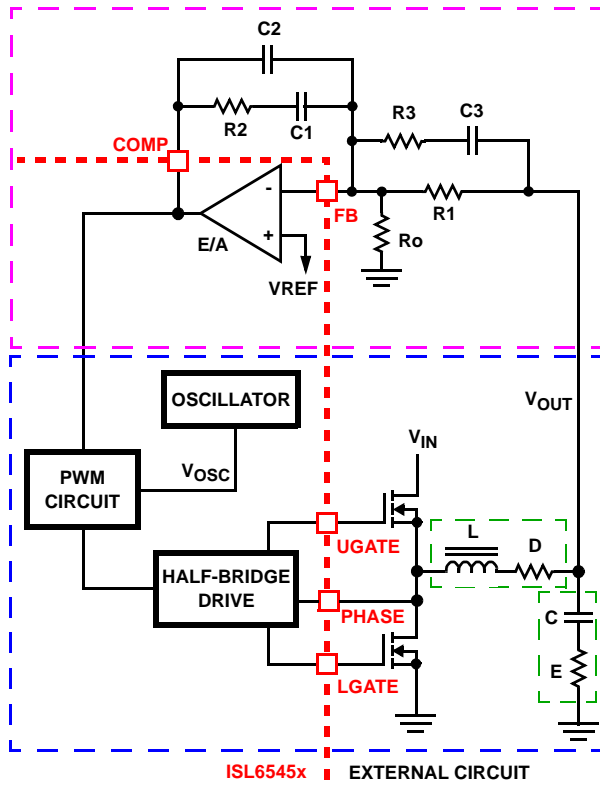

FIGURE 9. VOLTAGE-MODE BUCK CONVERTER COMPENSATION DESIGN
This section highlights the design consideration for a voltage-mode controller requiring external compensation. To address a broad range of applications, a type-3 feedback network is recommended, as shown in the top part of Figure 9.
Figure 9 also highlights the voltage-mode control loop for a synchronous-rectified buck converter, applicable to the ISL6545x circuit. The output voltage (V_{OUT}) is regulated to the reference voltage, V_{REF} . The error amplifier output (COMP pin voltage) is compared with the oscillator (OSC) modified sawtooth wave to provide a pulse-width modulated wave with an amplitude of V_{IN} at the PHASE node. The PWM wave is smoothed by the output filter (L and C). The output filter capacitor bank's equivalent series resistance is represented by the series resistor E.
The compensation network consists of the error amplifier (internal to the ISL6545x) and the external R1-R3, C1-C3 components. The goal of the compensation network is to provide a closed loop transfer function with high 0dB crossing frequency (F_0 ; typically 0.1 to 0.3 of F_{SW}) and adequate phase margin (better than 45°). Phase margin is the difference between the closed loop phase at F_{0dB} and 180°. The equations that follow relate the compensation network's poles, zeros and gain to the components (R1, R2, R3, C1, C2, and C3) in Figure 9. Use the following guidelines for locating the poles and zeros of the compensation network:
1. Select a value for R1 (1kΩ to 5kΩ, typically). Calculate value for R2 for desired converter bandwidth (F_0). If setting the output voltage via an offset resistor connected to the FB pin, R_0 in Figure 9, the design procedure can be followed as presented.